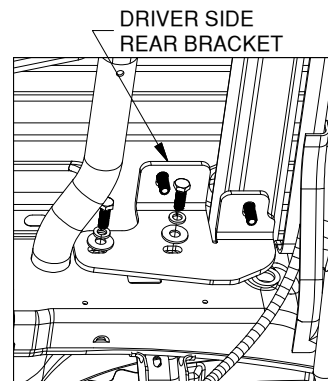

Figure D6: View looking up at driver side frame.
7. **Install the driver side rear bracket.** Locate the driver side rear bracket, two M12 x 35mm hex head bolts (shorter), two 1/2" split lock washers, and two 1/2" flat washers. Position the bracket under the installation location of the two driver side carriage bolts. Maneuver the bracket so that the 1/2" carriage bolts passes through the slots at the top of the bracket. Using 1/2" lock washers and 1/2" flat washers, thread the shorter (35mm) M12 hex head bolts into the frame through the holes in the bracket, see Figure D6.